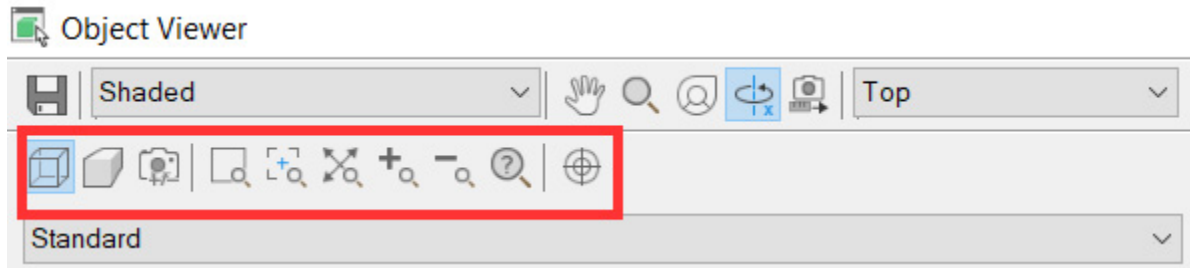

Figure 4.20 – Object Viewer with surface display
- **Adjust Distance:** Allows us to adjust the perspective projection of our current view displayed in **Object Viewer** (note that this can only be adjusted if **Perspective Setting** is toggled on; refer to the second row of tools, also shown in *Figure 4.20*)
In the second row, going from left to right, we have the following tools and options available to us (a detailed display of this row is shown in *Figure 4.20*):